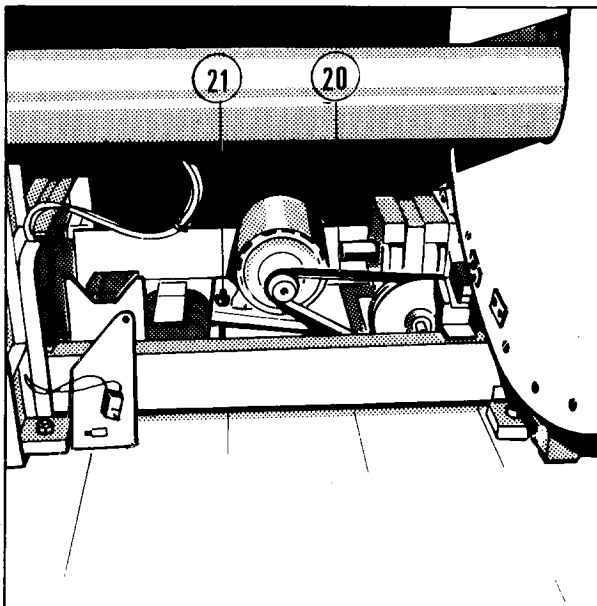

Fig. 14
- Check condition of the V-belts (Fig. 14/item 20).
- Check the belt tension by applying 30 N force with the spring scale at the center of each belt. Max.deviation 20 mm (25/32"). If necessary, readjust belt tension by turning the tensioning screw (Fig.14/item 21) after loosening the motor mount. Tighten mounting screw and repeat the test.